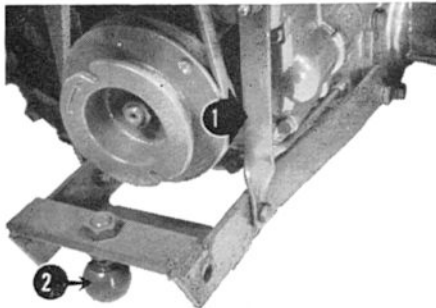

Figure 41
The Gravelly Rear Hitch, shown in Figure 41, is attached as follows:
1. Attach the Braces, 1 in Figure 41, to the Rear Hitch Frame loosely, using the bolts, nuts, and lockwashers provided. Be sure the short twist on each Brace is down.
4. Place the large nut on the Ball Stud, 2 in Figure 41, and run it up to the end of the threads. Screw the Ball Stud into the hole in the cross-member on the end of the Frame. Place the second nut on the Ball Stud and lock both nuts tightly against the cross-member. Be sure the Ball Stud hangs under the cross-member and not on top of it.